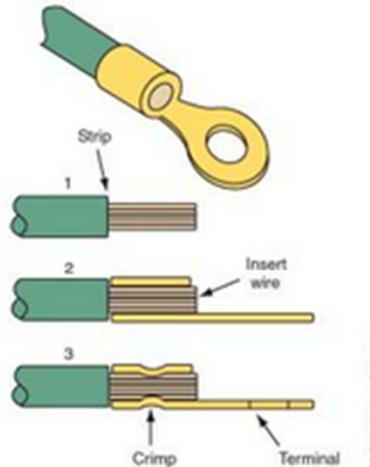

Figure 16-82 Placing a wire into and crimping it in a connector.
8. Place the ends of the wires into the terminal and connectors and crimp the terminal (Figure 16-82). To get a proper crimp, place the open area of the connector facing toward the anvil of the tool. Make sure the wire is compressed under the crimp.